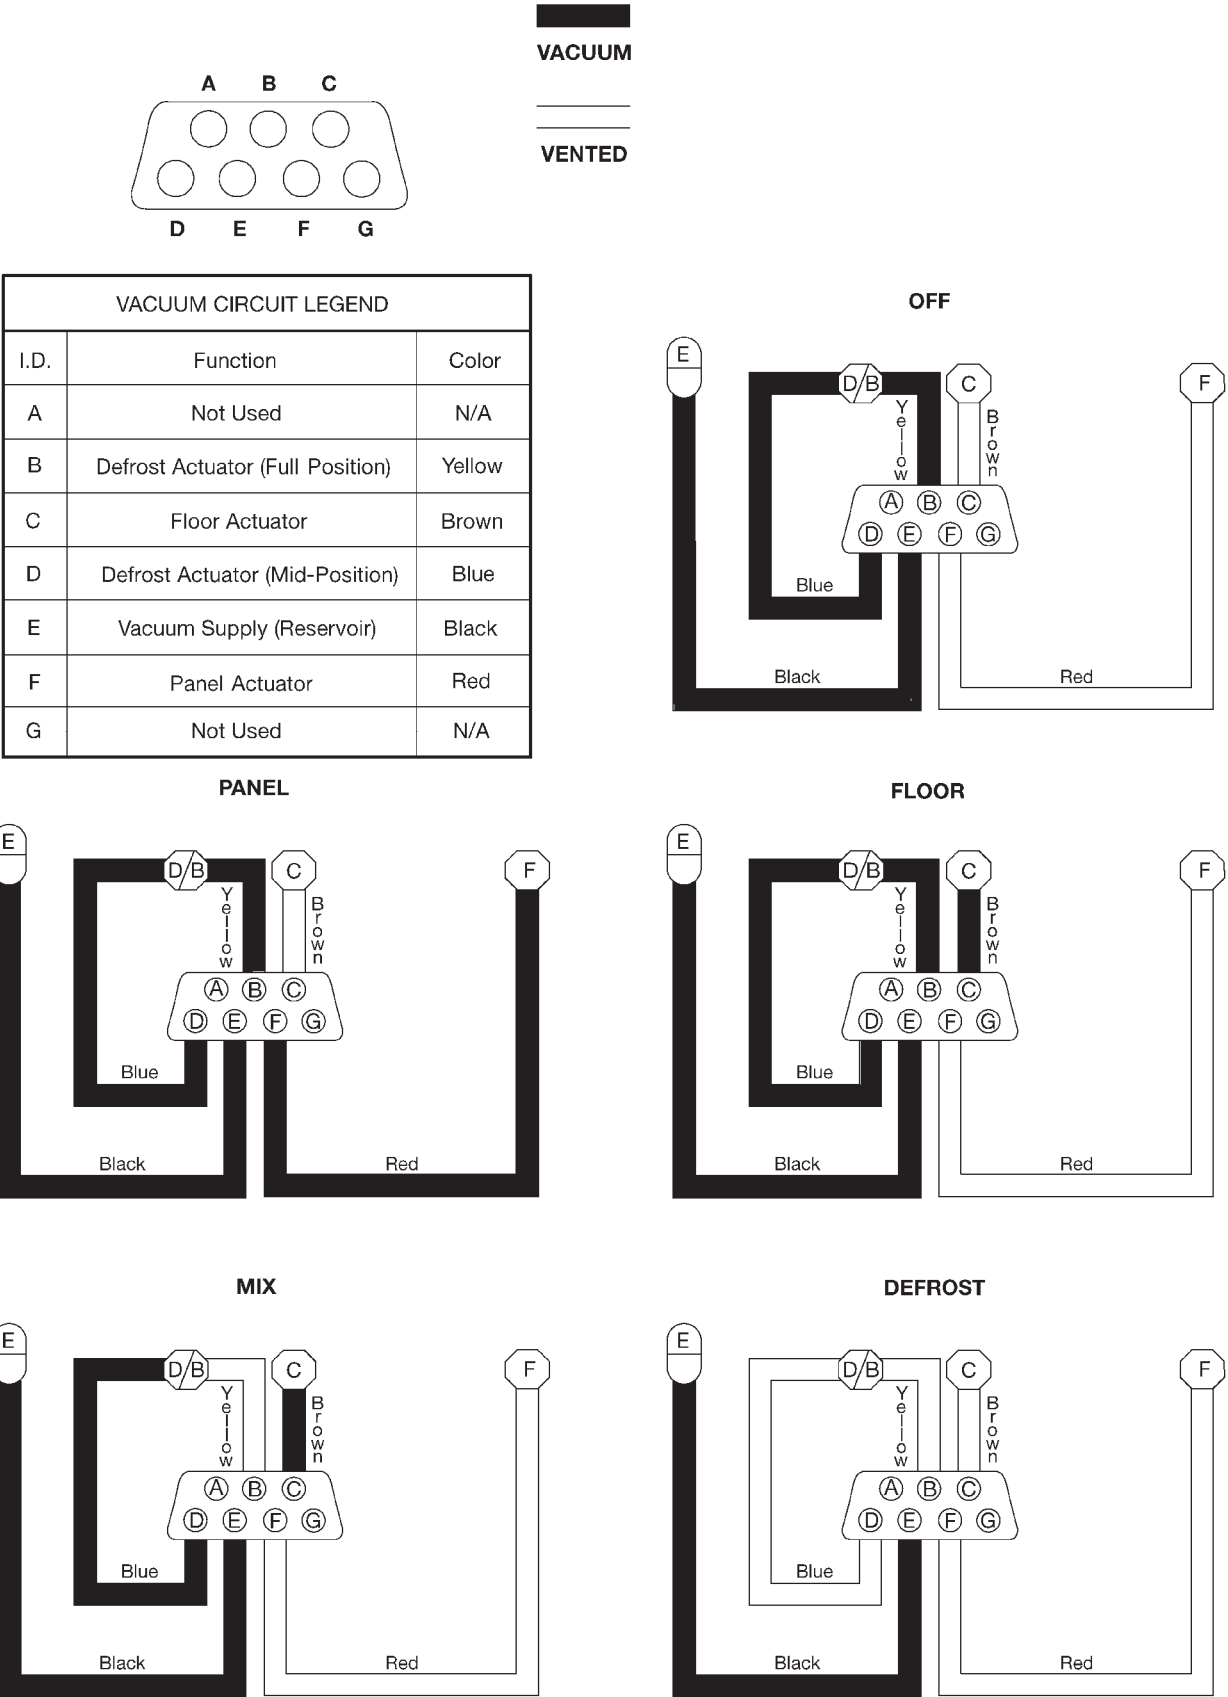
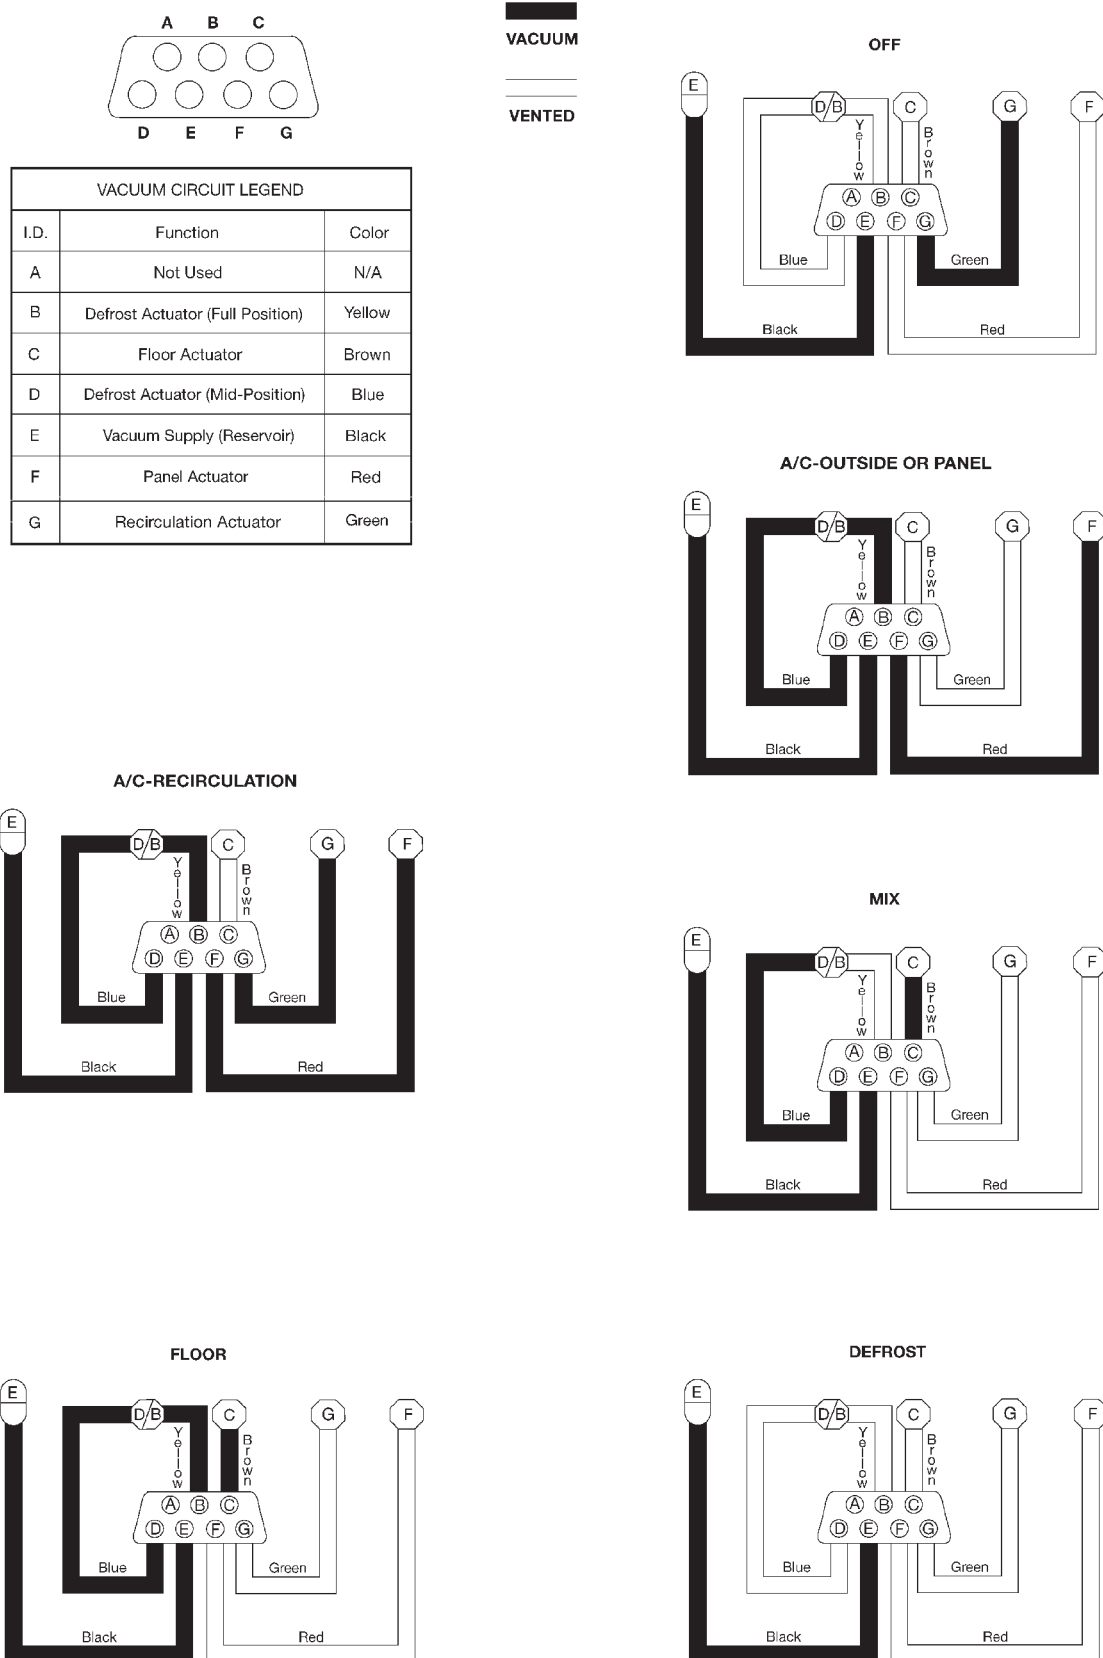

Fig. 10 Vacuum Circuits - Heater Only
Fig. 11 Vacuum Circuits - Heater-A/C
(3) Determine the vacuum line color of the vacuum circuit that is leaking. To determine the vacuum line colors, refer to the Vacuum Circuits chart (Fig. 10) or (Fig. 11).
(4) Disconnect and plug the vacuum line from the component (fitting, actuator, valve, switch, or reservoir) on the other end of the leaking circuit. Instrument panel disassembly or removal may be necessary to gain access to some components. See the service procedures in this group.
(5) Connect the test set hose or probe to the open end of the leaking circuit. The test set gauge should return to the 27 kPa (8 in. Hg.) setting shortly after